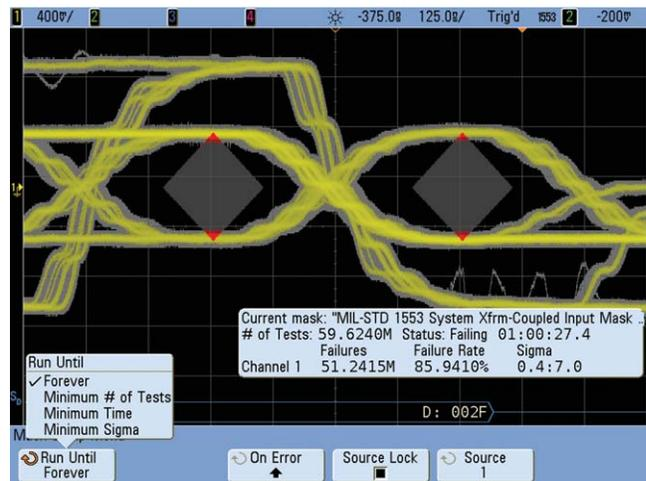

Figure 6. A system eye-diagram mask test on a transmission coupled system at the input of a remote terminal.
Figure 6 shows a MIL-STD 1553 eye-diagram mask test at the input of a remote terminal (RT). The scope repetitively captures and overlays all 17 Manchester-encoded bits of every Data Word received at the input test points of a specific remote terminal. Notice that some of the lower amplitude signals received at the input of this remote terminal are failing the mask test. This is indicated by the waveform areas highlighted in red that cross through the pass/fail mask.
Since the MIL-STD 1553 serial bus is based on Manchester bi-phase encoded data transmission, there are actually two "eyes" and two separate masks for each bit as shown in Figure 6. With this type of data encoding, signal edge transitions should occur near the mid point of each bit field for bit times 4 through 20. We should never see a signal remain high or remain low extending across this pair of half-bit masks. Since the 3-bit synchronization bit field does not adhere to Manchester encoding, these particular bits of each word are not tested.